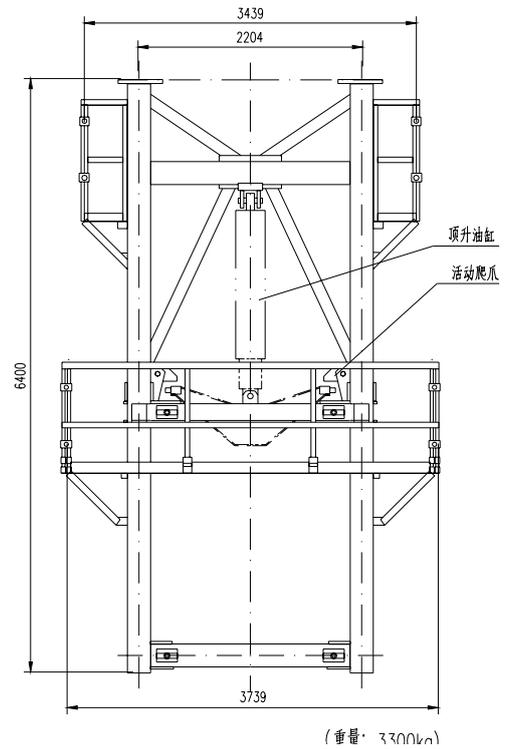

Fig.1-4 Climbing Frame
1.1.2.1 Structure Description (shown as Fig.1-4)